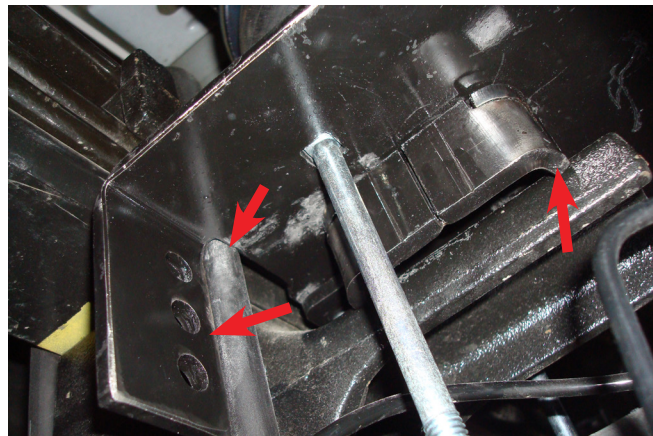

Fig. 21
2. Push the lower bracket so that it is flush against the leaf spring stack. The flanges on the lower bracket main plate should lock on the sides of the U-bolt (Fig. 21).